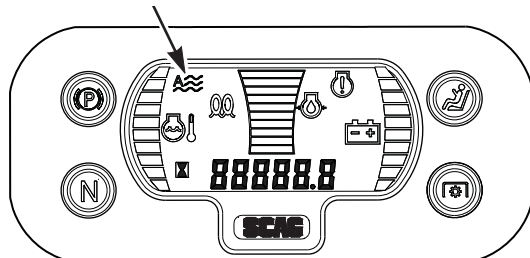

**Figure 5. Connect Harness to Sensor - STII Shown**
6. Carefully route the accessory wire harness to the filter sensor assembled to the engine air filter in Step 4 and connect. See Figure 5.